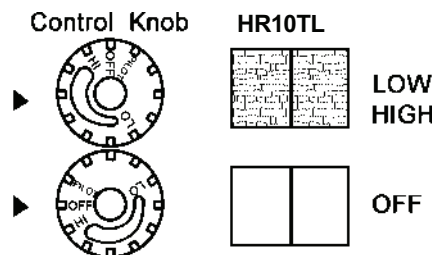

Figure 23 - Burner Patterns
8. Turn control knob counter clockwise ↻ to desired seating level. The main burner should light. Set control knob to any heat level between HI and LO. (see Figure 23)